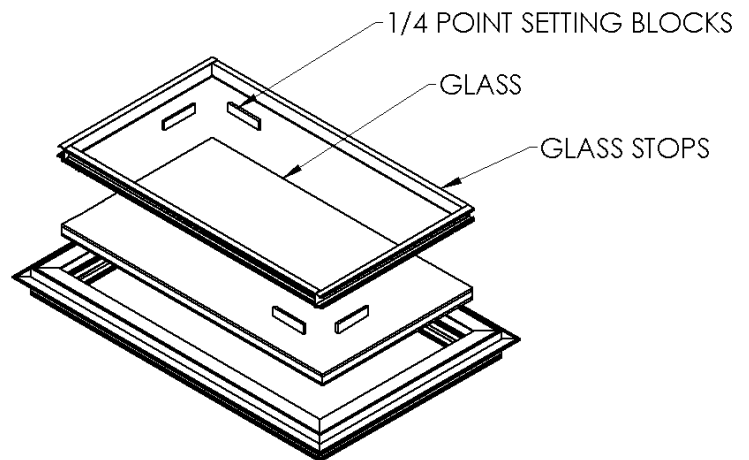

Figure 11:
Casement: 1/4 points on the hinge side lower corner (bottom and side) and 1/4 points of the diagonal (top and side) to prevent "sash sag" (Figure 11).
- Install glass to rest on the inner flange of panel then install glass stops (Figure 11).